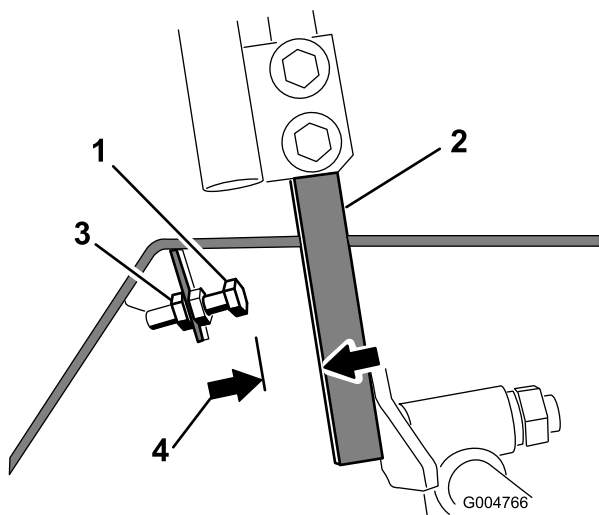

Figure 63
4. Loosen the jam nut on the stop bolt for one of the control levers (Figure 63).